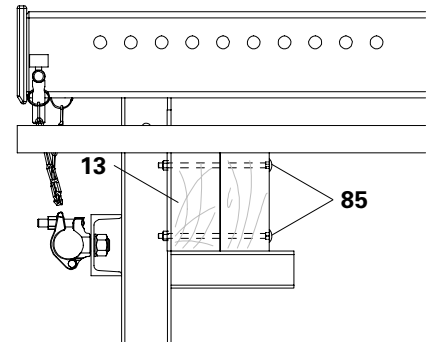

Fig. A1.12
- 2x Timbers 8 x 16 (13) or 1x 16 x 16 (15) (Fig. A1.12)